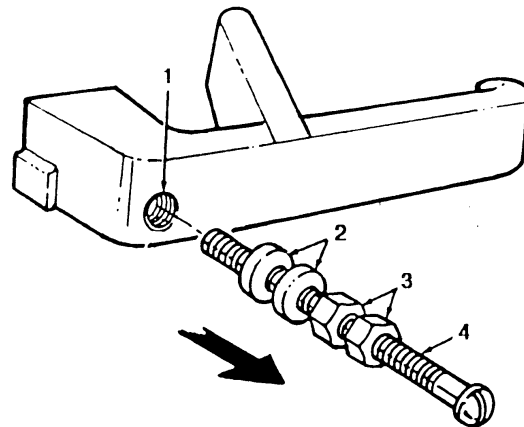

FIGURE 3-13
8. Loosen two nuts (3) and remove screw (4), two nuts (3), and washers (2) from insert (1). (see figure 3-13)